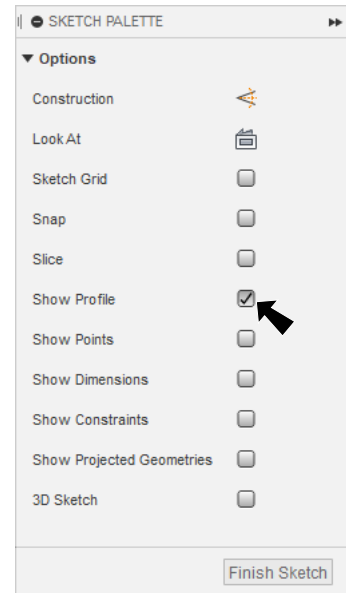

Fig. 15
Step 1. Show Profile in the Sketch Palette, Fig. 15.